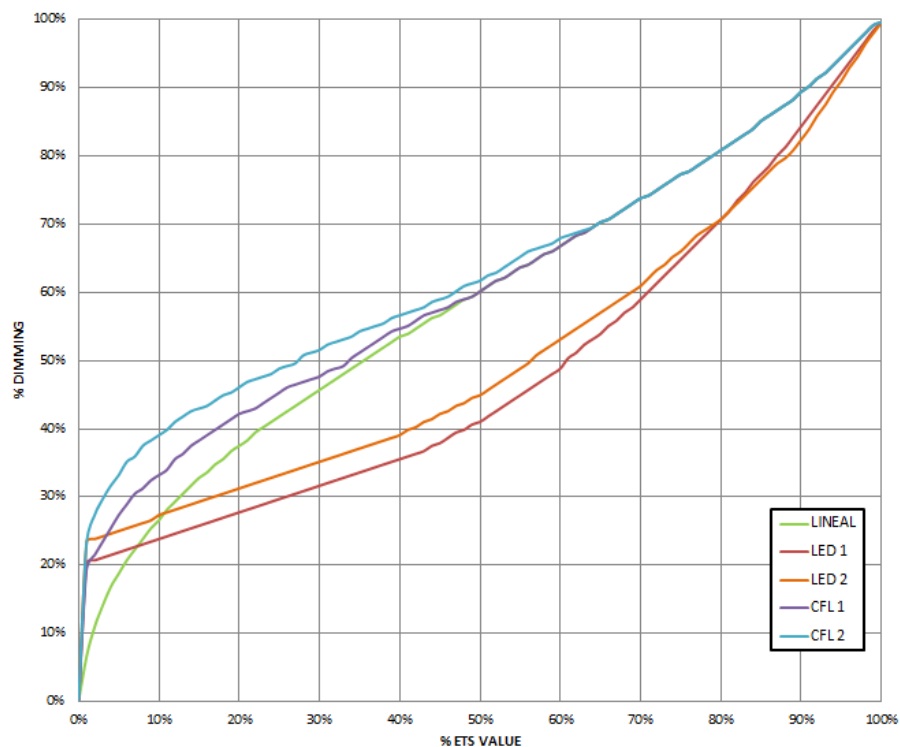

Figure 10 Dimming Patterns for LED and CFL loads.
- **Dimming Pattern:** “Lineal”, “Curve 1” or “Curve 2”. Figure 10 shows the different regulation curves for each load type.